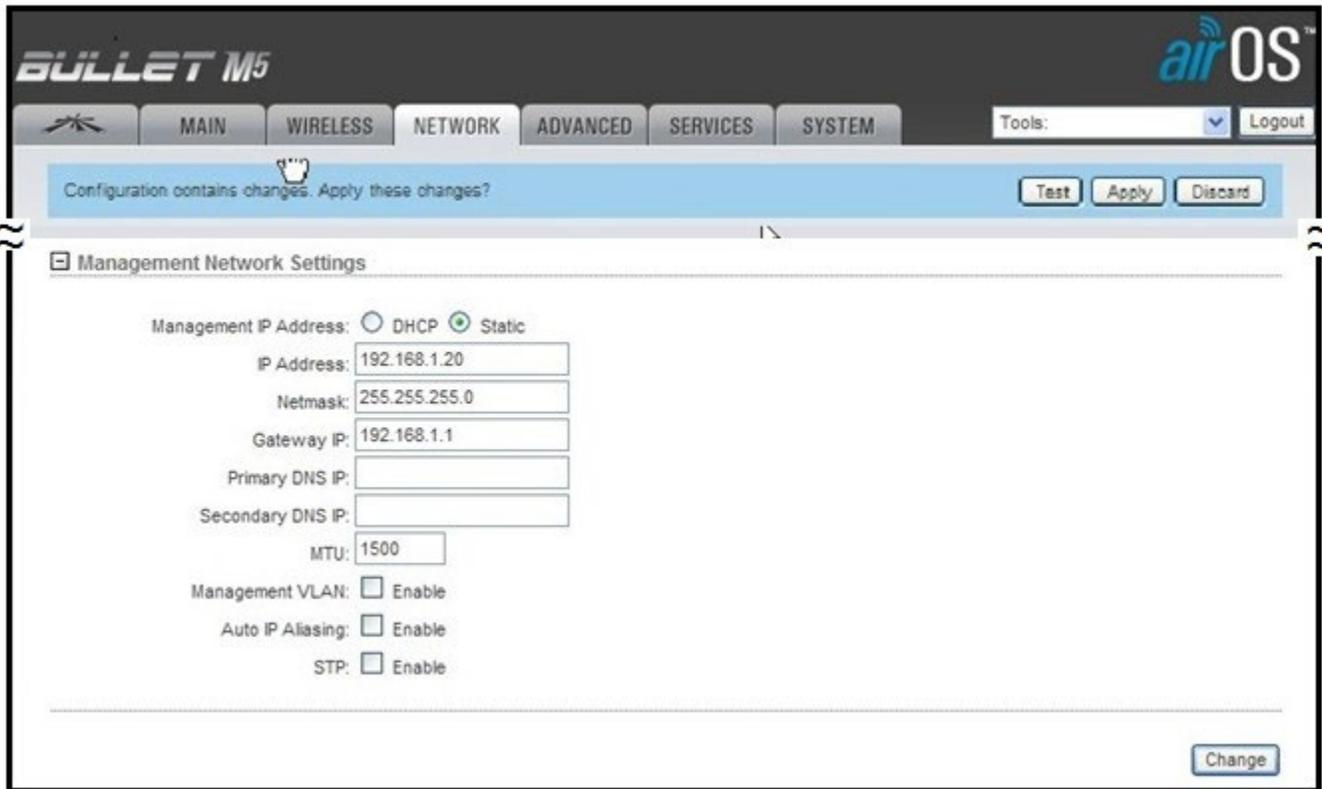

Figure 8 Network Settings
14. Select **NETWORK** tab (Figure 8).